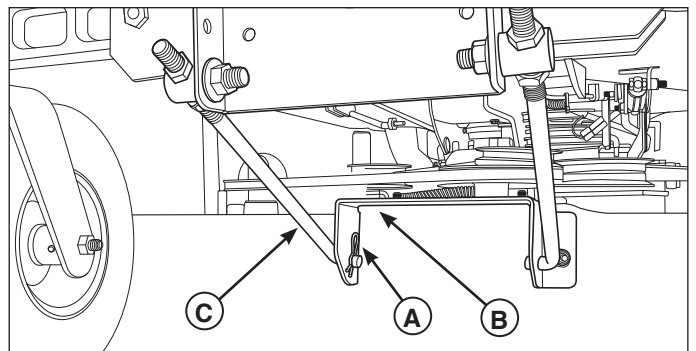

Figure 20. Front Deck Lift Components (Right side shown, left side same)
5. Remove the hairpin clips and washers (A, Figure 20) securing the front mower deck bracket (B) to the front lift rods (C), and pull the rods out from the holes in the bracket. Retain all removed hardware.
4. Insert the front lift rods (C, Figure 20) into the bottom holes in the front mower deck bracket (B), and secure each with a washer and hairpin clip (A).